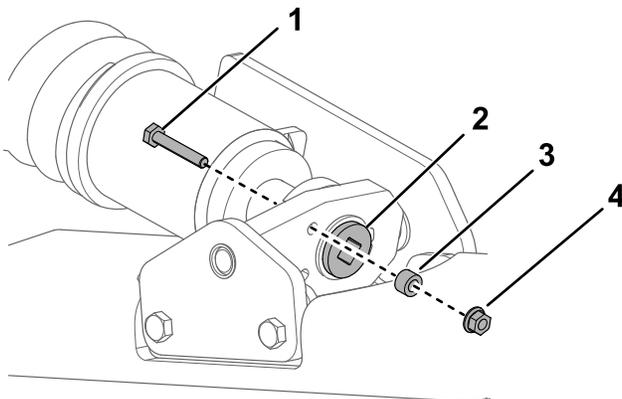
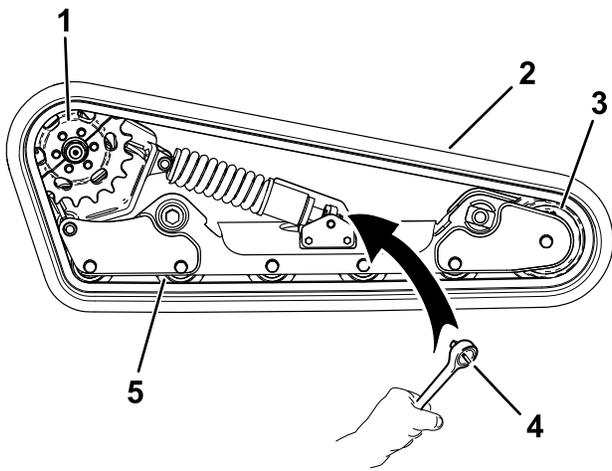

Figure 57
Figure 61
4. Remove the locking bolt, spacer, and nut (Figure 57).
6. Align the closest notch in the tension screw to the locking-bolt hole and secure the screw with the locking bolt and nut (Figure 57).
7. Remove the locking bolt, spacer, and nut (Figure 57).
8. Using a 1/2-inch drive ratchet, release the drive tension by turning the tensioning screw clockwise (Figure 57 and Figure 61).
- Remove the 3 bolts securing the sprocket half that is not engaged with the track (Figure 61).
- Wrap the new track around the front wheel (Figure 61).
- Push the track under and between the road wheels and wrap it around the frame (Figure 61).